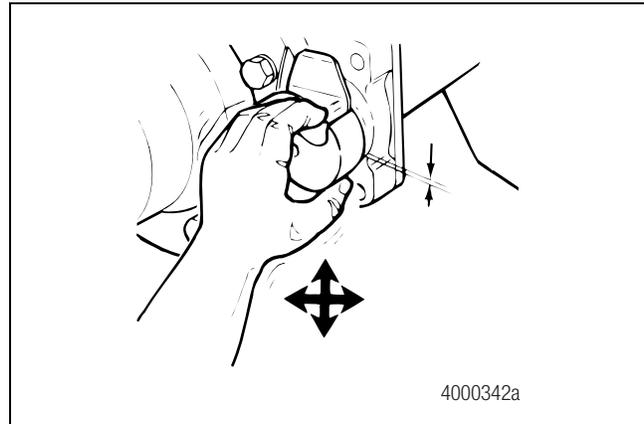

Figure 5.7
1. Move the camshaft as shown in Figure 5.7. Use a dial indicator to verify that the cam-to-bushing radial free play is within specification.